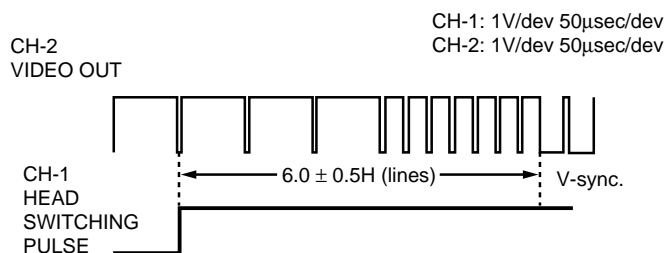

Figure 5-2.
5. Watch the oscilloscope screen and make sure that the leading edge of the head switching pulse is  $6.0H$  (lines) ahead of the vertical sync as shown in Figure 5-2.